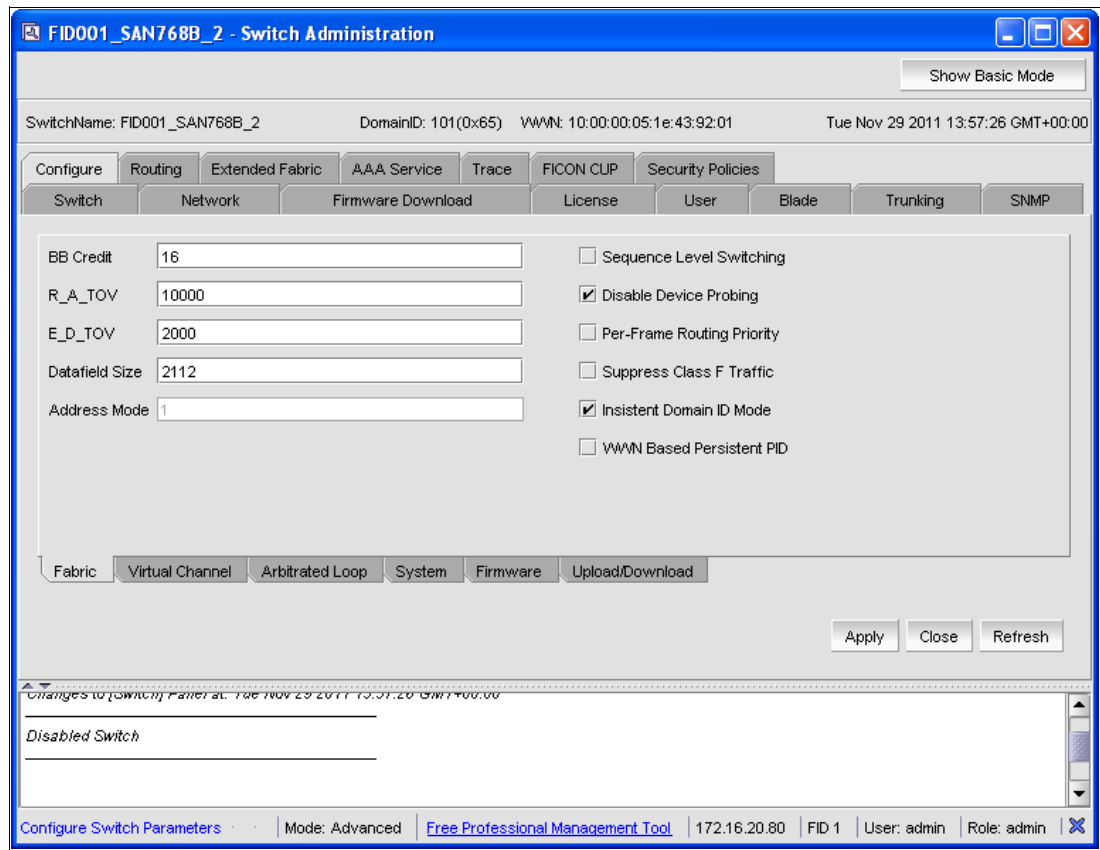

Figure 8-38 Insistent Domain ID Mode
8. Click **Insistent Domain ID Mode** to check-mark it, as shown in Figure 8-38.
**Note:** Do not change BB credits here. Increasing BB credits for ISLs will be addressed later. All other parameters should be as shown in Figure 8-38. Making other changes here is rare and should only be done so with the advice of IBM support.